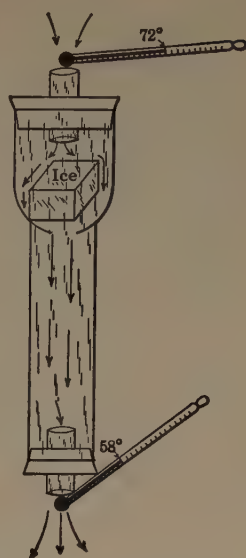

FIG. 174. — Principle of convection in the refrigerator.
**Air circulation in the refrigerator.** Downward convection currents may easily be shown by the following experiment: Clamp an inverted cylindrical lamp chimney in a vertical position above the table. Place a cube of ice in the upper part of the chimney, supporting it, if necessary, on a piece of wire gauze. Close both ends of the chimney with rubber stoppers having short pieces of glass tubing passing through them, as in Fig. 174. By testing with smoke, it will be found that a current of air enters the top opening and comes from the bottom tube. If a thermometer bulb is held